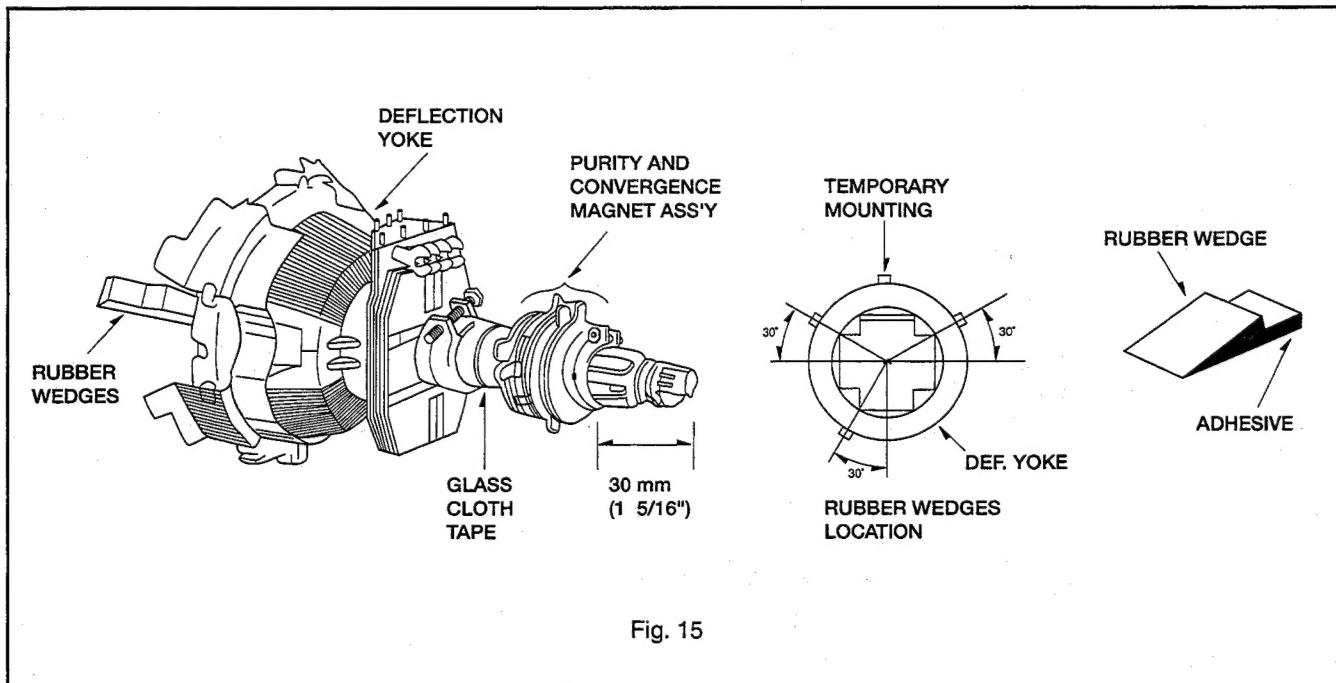

Fig. 15
6. Rotate the lock ring (See Fig. 15) clockwise to loosen. Rotate and spread the tabs of the purity magnet (See Fig. 16) around the neck of the picture tube until a green belt is obtained in the centre of the screen. And at the same time, centre the raster vertically by adjusting the magnet. After the above adjustment, rotate the lock ring counterclockwise to lock tightly.